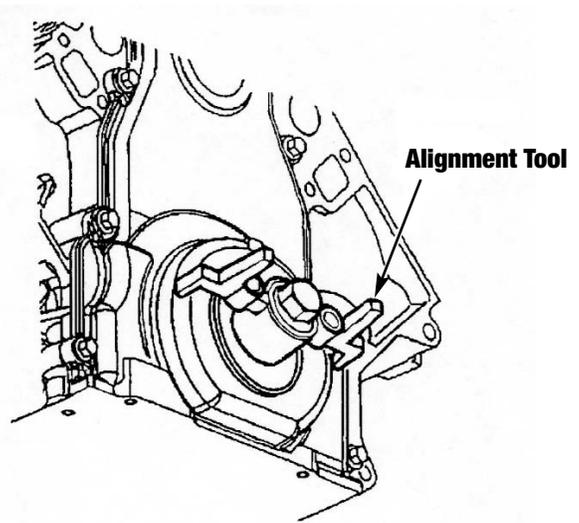

Figure 2 - Front Cover Alignment Tool
9. Install the front cover, using a new gasket if needed. Install front cover bolts hand tight ONLY. Use front/rear cover alignment tool J-41476 and align the tapered legs of the tool with the machined alignment surfaces on the front cover (See Fig. 2). Install the crankshaft balancer bolt and tighten by hand until snug. Tighten the front cover bolts to 18 ft./lbs. Make sure the bottom of the front cover is flush with the oil pan gasket surface.